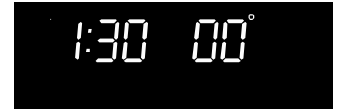

Fig. 1
1. Press **Bake** for 6 seconds (Fig. 1).